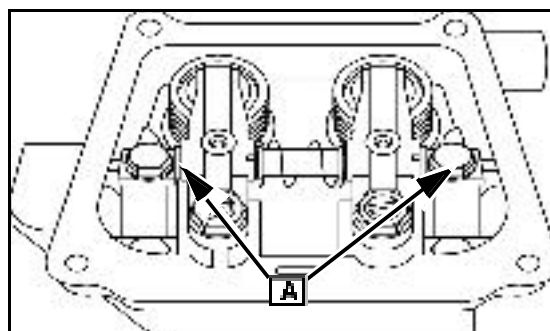

Fig. 3
1. Remove two hex screws (A) holding rocker arm shaft to cylinder head, Fig. 3.